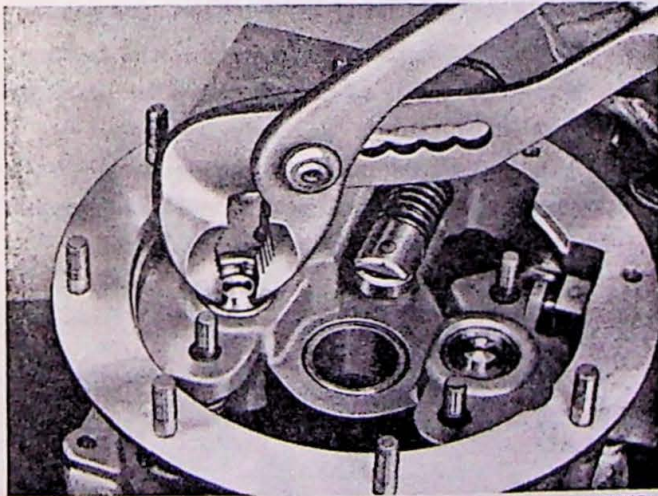
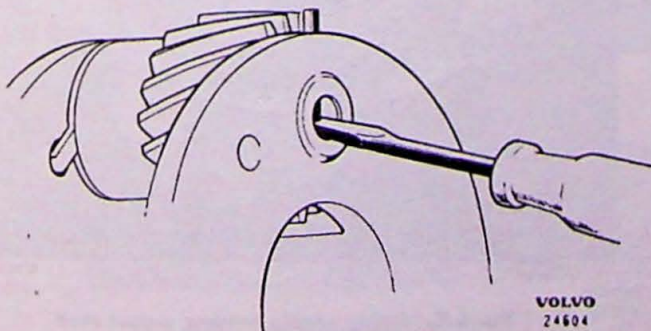

Fig. 3-43. Removing the plungers
Fig. 3-44. Removing the locking pins in the planet wheels
- valve. Remove the oil strainer. Unscrew the bolts and lift out the solenoid (17).
2. Bend down the locking plate, unscrew and remove the nuts for the plunger pressure plate (54). Remove the pressure plates. Pull out the plungers with the help of a pair of pliers, see Fig. 3-43.
3. Unscrew the nuts which hold together the brake drum (39), the front (46) and rear (20) housing halves. Slacken the nuts successively all round so that there is no oblique tension from the springs. Lift off the front housing half and brake drum.
4. Lift out the clutch disk (41) complete with thrust bearing and sun wheel. Remove the four springs and pressure plate. Remove the locking rings for the sun wheel (44) and bearing. Remove the sun wheel. Pull off the bearing from the clutch disk. Press out the bearing from the retainer.
5. Lift off the planet wheel (36) and carrier (43). Remove the locking pins (40) for the planet wheel shafts by first pressing them out with a drift or similar, see Fig. 3-44 and then removing them with a pair of pliers. If this is not possible, drill out the pins with a suitable drill. Press out the planet wheel shafts and remove the planet wheels.